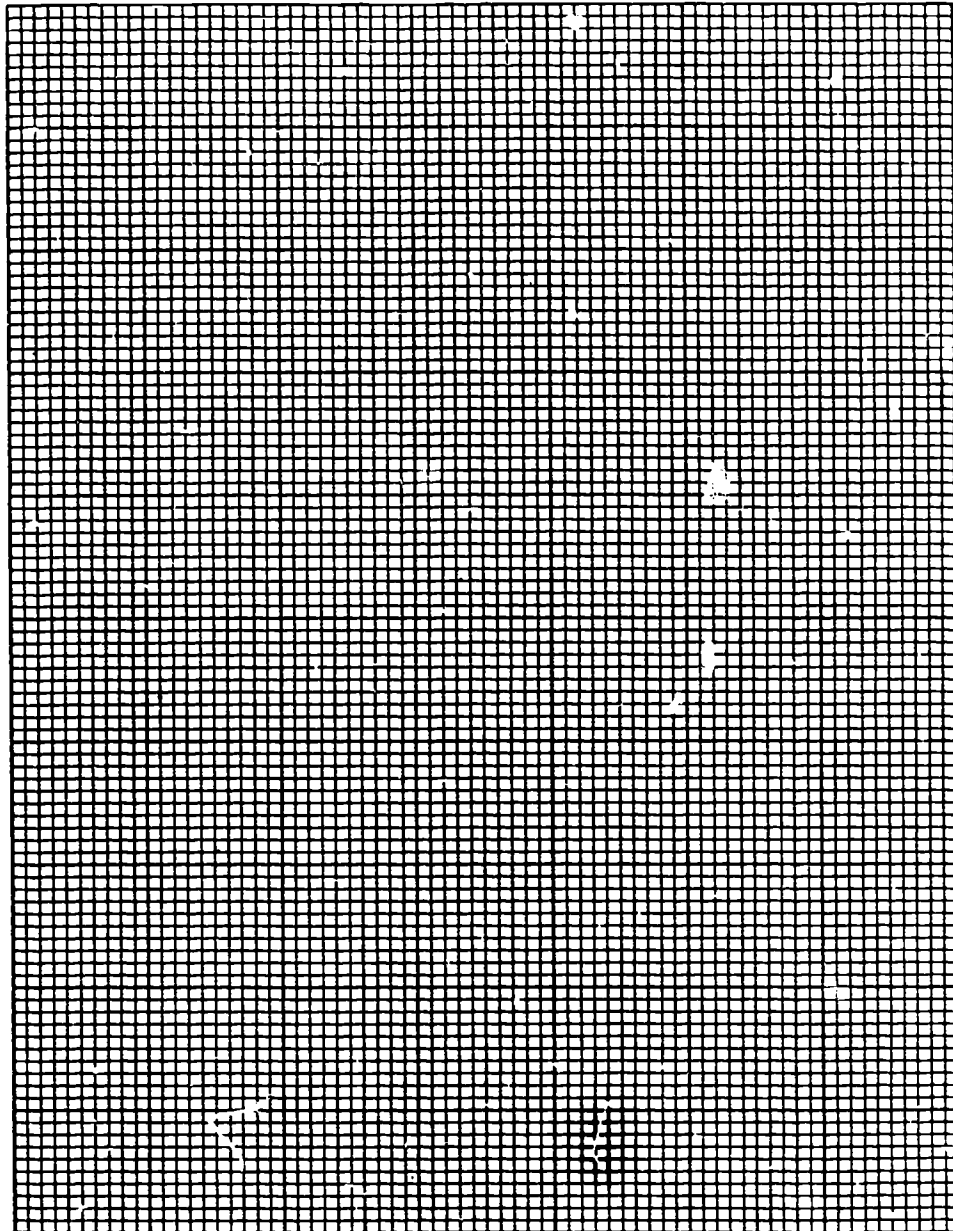

Figure 1-7. Objective A09, exercise 1.
1. The following is a list of weights, to the nearest point, of 40 airmen assigned to Imagery Production Laboratory. Using the graph paper (fig. 1-7), as appropriate, construct: